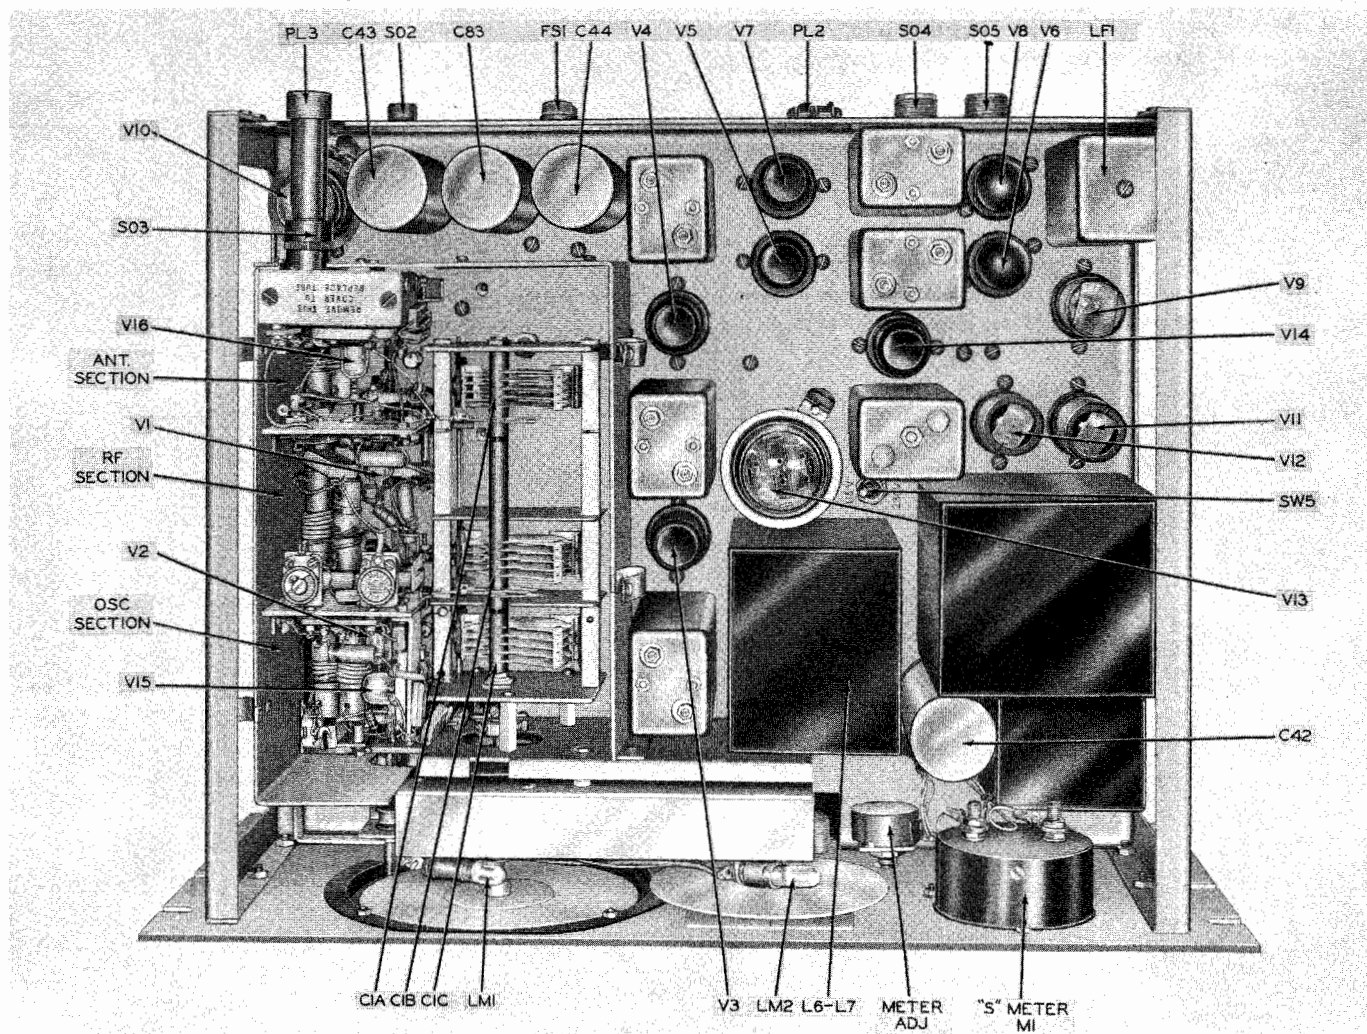

Figure 5-1. Radio Receiving Equipment Navy Model RBK-16, Top View Showing Tube Locations.
b. Refer to figure 5-1 for tube locations.